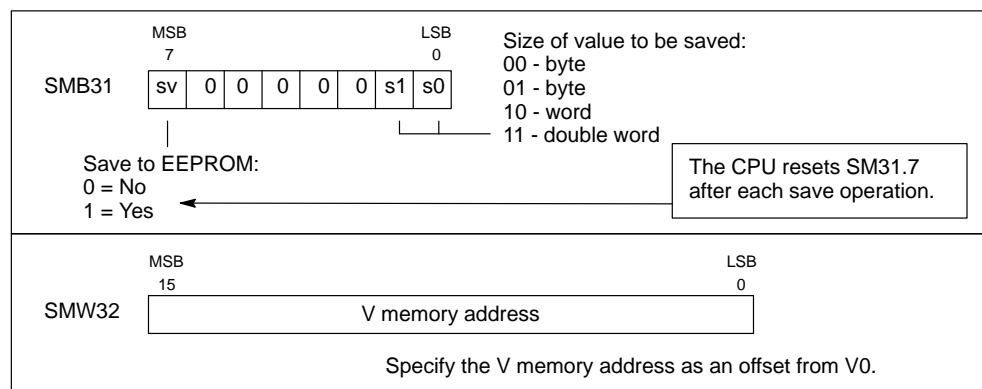

Figure 7-19 Format of SMB31 and SMW32
Special Memory Byte 31 (SMB31) and Special Memory Word 32 (SMW32) command the CPU to copy a value in V memory to the permanent V memory area of the EEPROM. Figure 7-19 shows the format of SMB31 and SMW32. Use the following steps to program the CPU to save or write a specific value in V memory:
2. Load the size of the data in SM31.0 and SM31.1. (See Figure 7-19.)